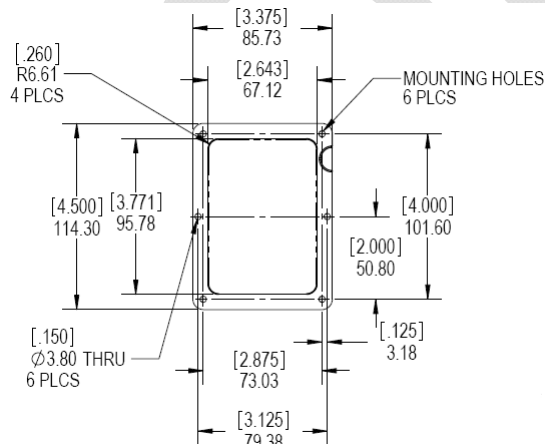

Figure 1
This Helios™ charger requires (6) #6 x 1/2" Phillips round head wood screws (not included) to be inserted into the provided holes to hold the charger in place, assuming the work surface is 3/4 inch thick (see Figures 1 & 3). Special consideration for the screw size must be taken by the installer; the screw length should not pierce through the top surface of the work surface and may differ from work surface to work surface.